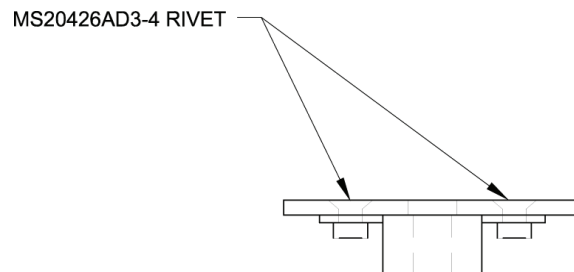

Figure C-16 Riveted Nutplate And Disk
11. Rivet nutplate to disk with MS20426AD3-4 rivets as shown in Figure C-16.